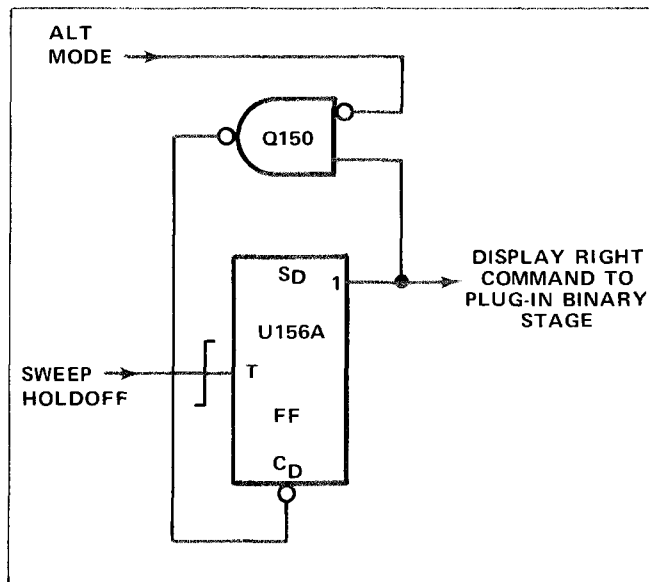

Figure 3-10. Logic diagram of Vertical Binary stage.
The Vertical Binary stage consists of integrated circuit U156A and transistor Q150. U156A is a D-type flip-flop with direct-set and direct-clear inputs (see Table 3-1 for operating details). The connection between the "O" output and the data (D) input enables this flip-flop to operate in the triggered mode. A logic diagram of the Vertical Binary stage is shown in Fig. 3-10.